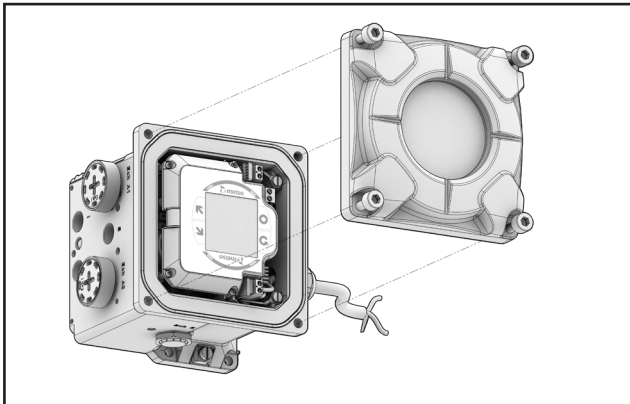
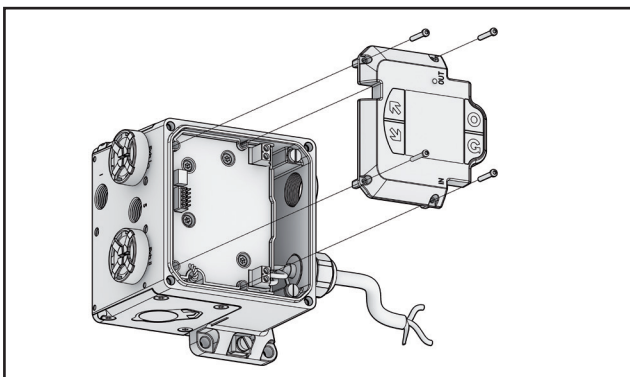

Fig. 91 NDX_511_ and NDX_512_
Fig. 92 NDX1510_
- o Loosen the display screws and remove display. (Fig 91, Fig 92)